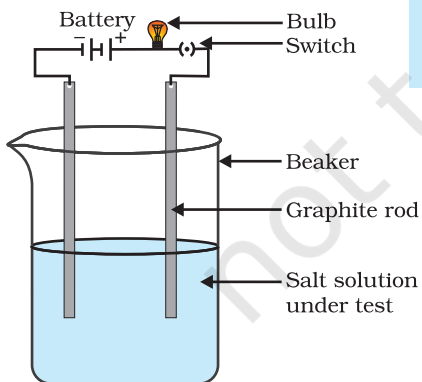

Figure 3.8
- Make a circuit as shown in Fig. 3.8 and insert the electrodes into a solution of one salt. What did you observe? Test the other salt samples too in this manner.